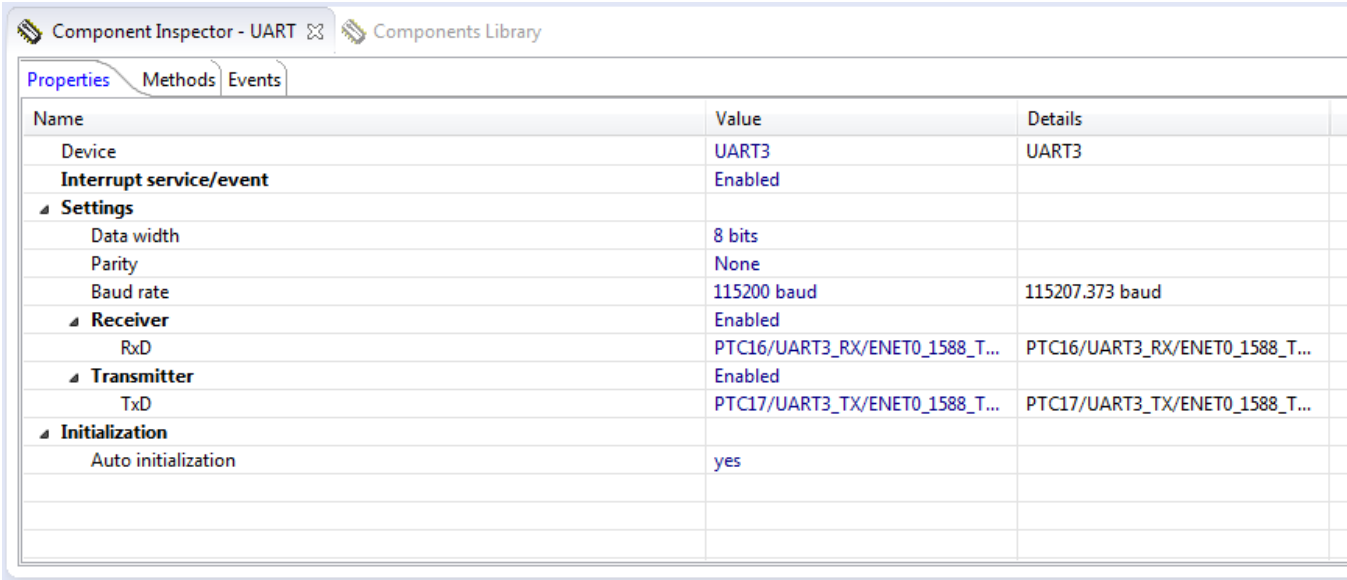

Figure 14. Component Inspector - UART panel
- c. Under the **Properties** tab, of the **Component Inspector - UART**, select the appropriate UART and its correct Tx and Rx pins for the board you are using according to Table 2. See Figure 14.